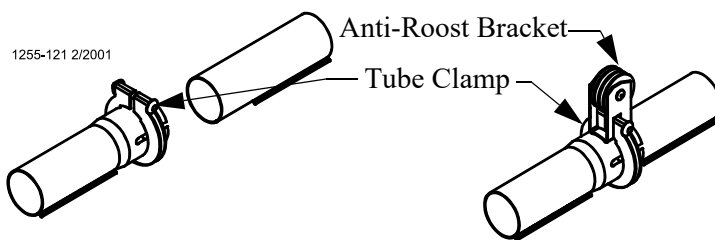

Figure 25. Tube Clamp and Tube Clamp with Anti-Roost Bracket
4. Place a Tube Clamp Assembly or Clamp/Anti-Roost Bracket at each joint. (See **Figure 25.**) shows the standard Clamp and Clamp/Anti-Roost Bracket.